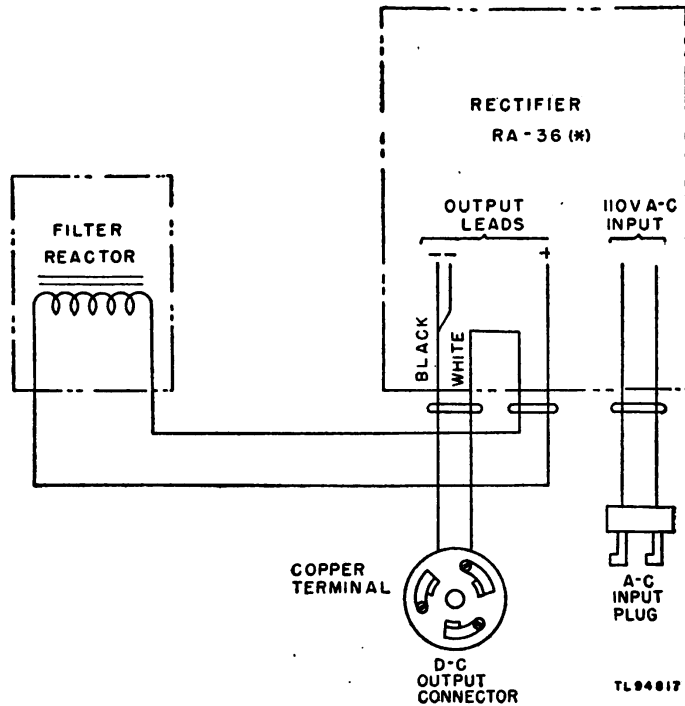

Figure 19. Rectifier RA-36(*), external reactor connections.
- b. RECTIFIER RA-36-(1) AND RECTIFIER 6RB6B17. The following information applies particularly to these models.
- (1) Wiring diagram. (See fig. 19.)
(1) *With the unit connected to the supply voltage*, a voltmeter can be used to determine continuity or lack of continuity in the secondary transformer. Use the volt-ohmmeter in Test Set TS-26/TSM, or a meter with a 125-volt scale or greater, and test for voltage between the contact points on the plug boards or tap switches of these units. See figures 19 and 21 for test points. If this test shows there is no voltage in any of the secondary windings the defect is probably in the primary.